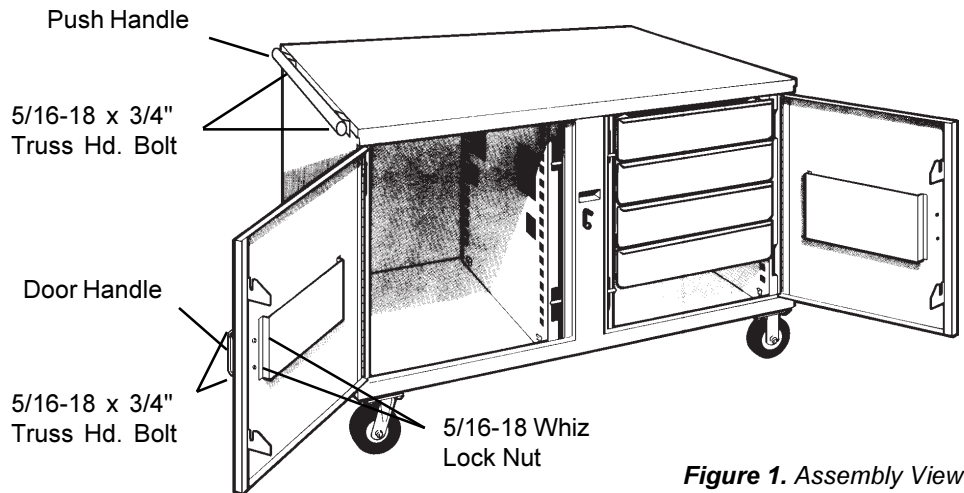

Figure 1. Assembly View
1. Remove the caster box and handle kit from the cabinet. Attach Handles to the doors (Figure 1.). Attach the Push Handle to the end.